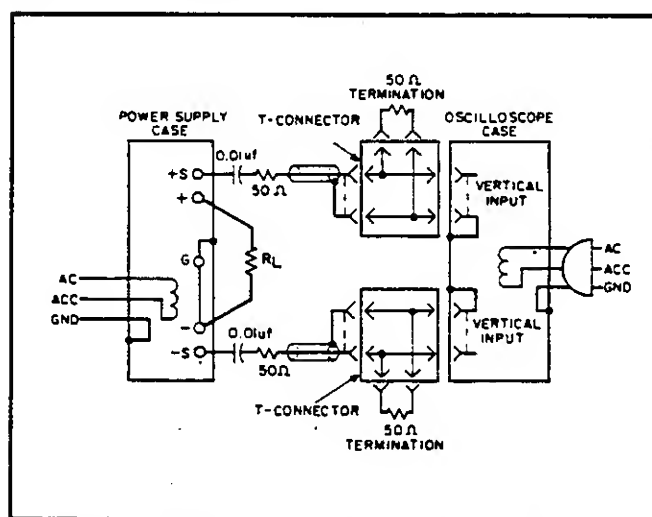

Figure 5-3. Noise Spike Measurement Test Setup
- As shown in Figure 5-3, two coax cables must be substituted for the shielded two-wire cable.
**5-26** The circuit of Figure 5-3 can also be used for the normal measurement of low frequency ripple. Simply remove the four terminating resistors and the blocking capacitors and substitute a higher gain vertical plug-in for the wide-band plug-in required for spike measurements. Notice that with these changes, Figure 5-3 becomes a two-cable version of Figure 5-2B.